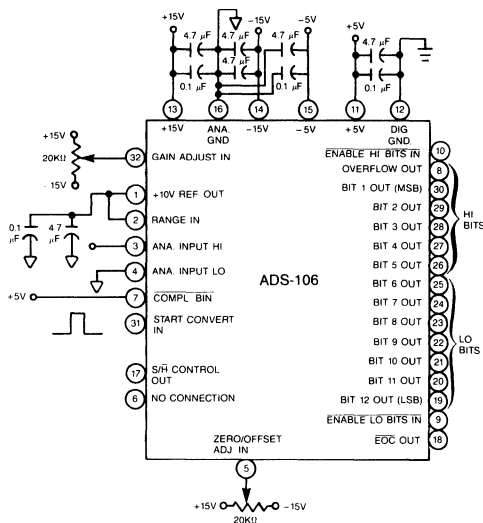

Figure 3. ADS-106 Typical External Connections, ± 10V dc
1. Connect the converter per Figure 3 and Table 2 for the appropriate full-scale input range (FSR). The data outputs should be connected to LED's to observe the resulting data values.